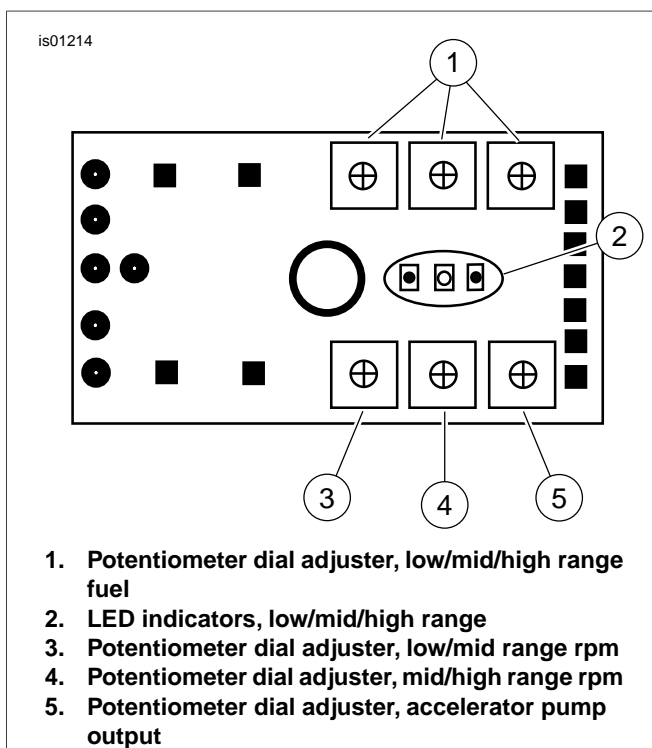

Figure 7. Race Fueler Box
- See Figure 7. The race fueler box is powered when the ignition key is turned to ON. All three LEDs (2) will flash rapidly together for about one second. This indicates that
1. See Figure 7. The race fueler box divides the engine rpm range into three segments, which are selected by two potentiometer dial adjusters. The RPM segment ranges are:
- a. Low to mid potentiometer dial adjuster (3): 900 to 3500 RPM
- b. Mid to high potentiometer dial adjuster (4): 4500 to 7100 RPM
See Figure 8. Each of three RPM ranges has a corresponding fuel adjuster (LOW, MID, and HIGH) (Figure 7, Item 1). When the engine is running in a particular RPM range, adjusting the fuel potentiometer dial adjuster for that range can change from -10% to +40% fuel. The race fueler box uses a load-based algorithm that tracks exactly how much fuel the PCM is calling for, and changes the fuel percentage based on the potentiometer dial adjuster setting. The fuel adjustment is linear.
See Figure 7. Use the AE potentiometer dial adjuster (5) to eliminate stumble when opening the throttle. The AE fuel is added only when the race fueler box detects a sudden increase in engine load and acts like an accelerator pump on a carburetor. The fuel is added over a brief period of time and the amount of fuel is adjusted from 0% to 100% by the AE potentiometer dial adjuster.